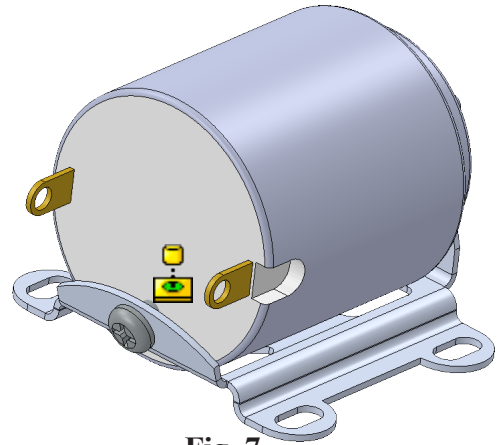

Fig. 7
Step 4. Position cursor **near rear screw hole** in MMB, **Fig. 7**. When Screw snaps into place and cursor changes to indicate a Concentric and Coincident